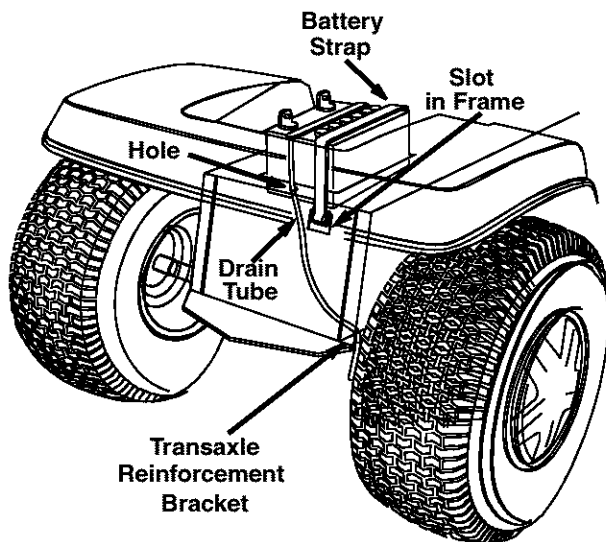

Figure 9
- Secure battery by hooking battery strap into slot in rear frame, under the fender. See Figure 9.
- Insert the drain tube down through the hole in the battery compartment and the hole in the transaxle reinforcement bracket located on the **right** side of the unit. See Figure 9. Be certain drain tube is routed away from the wheel rim.